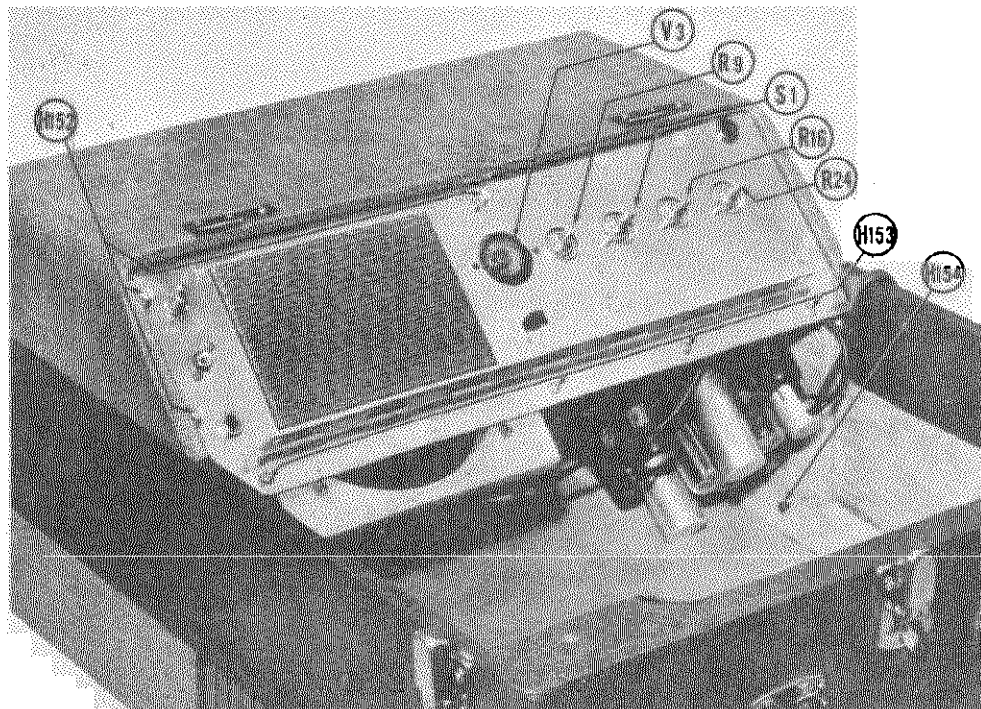

Fig. 48—Disassembly Step No. 9 and 10
9. Remove the three screws (H-152) holding the amplifier to the case. (See Fig. 48).
10. Remove the screw (H-154) holding the amplifier base board in the track. (See Fig. 48).